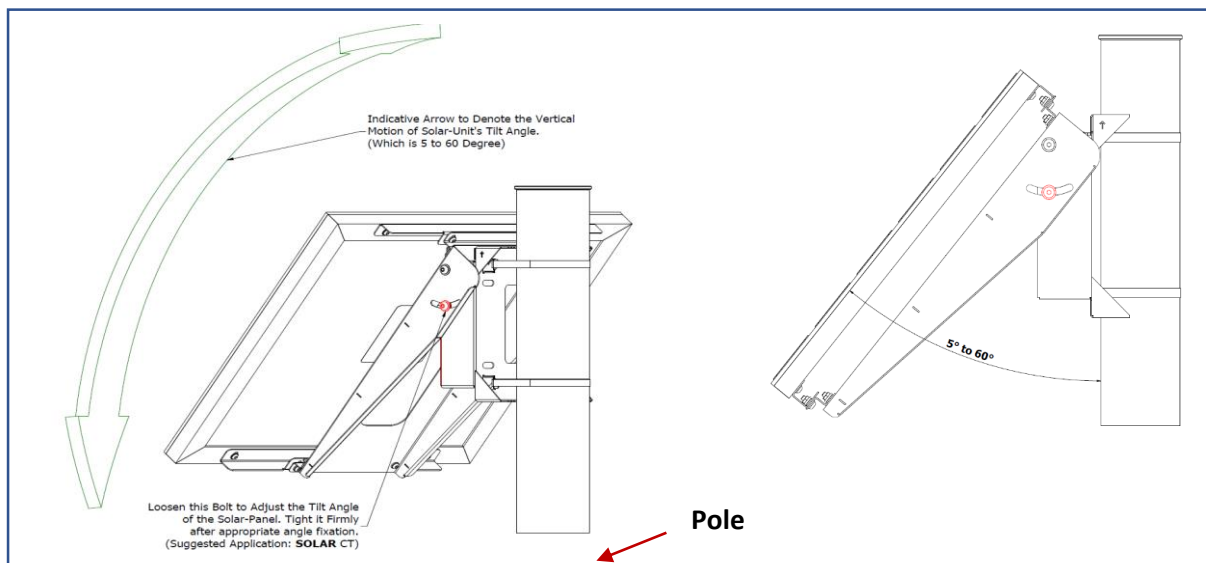

Fig.7
STEP 8: Rotate the entire unit in desired direction. Tilt the **Solar Panel** at desired angle of 15°, 40° or 60° respectively. **Fig.7**